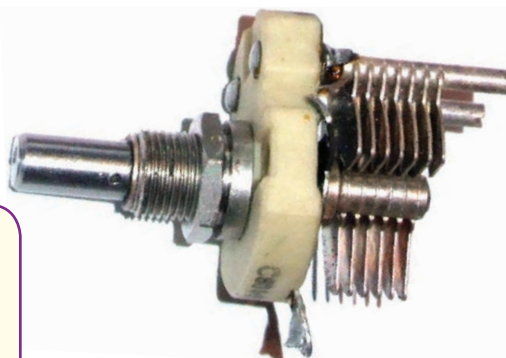

Fig.2.13. See question 13
13. What type of component is shown in Fig.2.13?